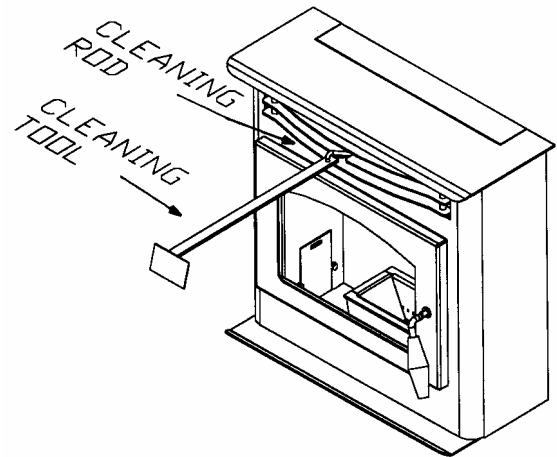

FIGURE 25
- Clean heat exchanger tubes (see **"CLEANING"** and Figure 25).
- Heat Exchange Tubes** – Your Breckwell stove is designed with a built-in heat exchange tube cleaner. This should be used every two or three days to remove accumulated ash on the tubes, which reduces heat transfer on the P22. Insert the handle end (with hole) of the cleaning tool onto the cleaning rod (refer to figure 25). The cleaner rod is located in the grill above the stove door. Move the cleaner rod back and forth several times to clean the heat exchanger tubes. Be sure to leave tube cleaner at the rear of the stove.